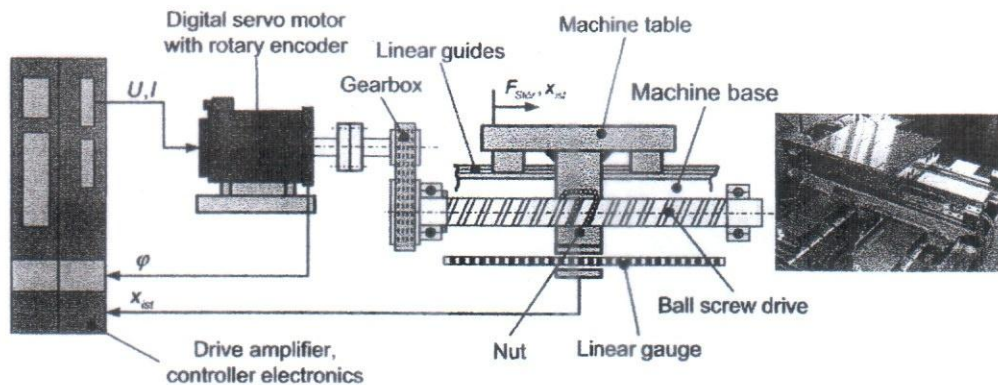

Figure 6: A mechatronic system for manufacturing process automation
3. Consider the following schematic diagram of a mechatronic system as in Figure 6. The system is to be applied in a manufacturing process activity as a mean of improving the production efficiency and performance. Suggest the type of sensors and measurement system to be applied with this mechatronic application. **(25 Marks)**